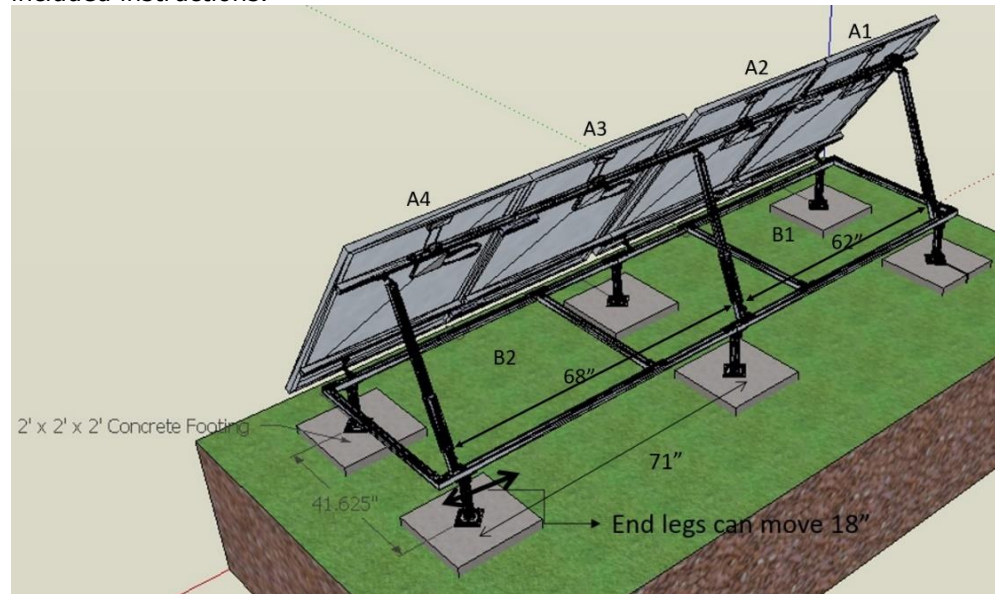

Figure 1: Dimensions of the three back supports and allowable leg offsets.
The ANSI UL2703 certification is valid only when mounted in the manner specified in this instructions. The system is certified for a 30lb/ft2 load rating. This system is Not Fire Rated. Tighten all hardware to the torque specifications in the table above. The Maximum (DC) Series Fuse Rating for each solar module is 15A. The assembled dimensions of the SolarPod™ is given in Figure 1. The UL2703 listing has been evaluated for these dimensions. The middle support panel tilt adjust bar must be 68" and 62" from A4 and A1 as shown in the Figure. The base feet must be between 78" and 60" from the center. The legs cannot be greater than 12" high. The SolarPod™ Grid Tied can be bonded together using a minimum AWG #6 size wire. SolarPod™ Grid Tied has been evaluated to a maximum overcurrent protection device (OCPD) of 15 Amps.